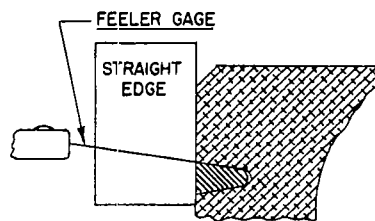

Figure 7-7. Method of Checking Piston Ring Side Clearance
- Side clearance between piston ring and piston (514, 515 and 516). Pistons for Avco Lycoming opposed engines are ground with a slight taper from the skirt to the head, with the exception of the lands between the top compression and oil control rings, which are ground parallel. The clearance on wedge type compression rings, therefore, must be measured as shown in figure 7-7 in order to obtain a true check of the side clearance.
- Inside diameter of piston pin hole (512).
- Clearance between piston skirt and cylinder and piston diameter at top and bottom (519).